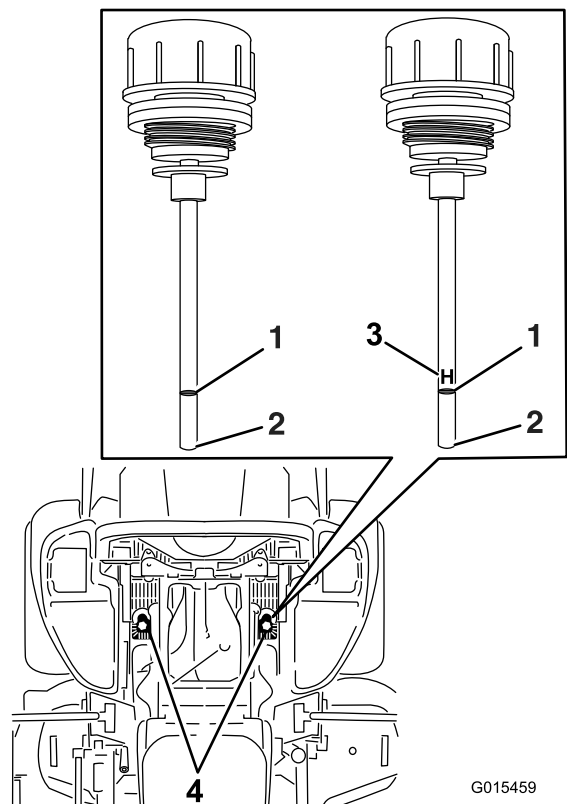

Figure 85
5. Clean the area around the dipsticks of hydraulic-system reservoirs (Figure 85).
6. Remove 1 dipstick from the hydraulic reservoir (Figure 85).
8. Remove the dipstick and look at the end (Figure 85).